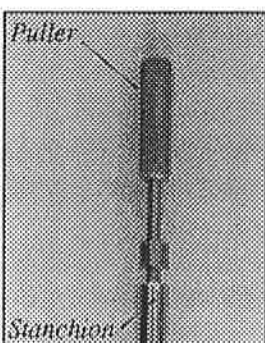

Fig. 9
12. Thread the puller onto the schraeder valve and pull the assembly out of the stanchion (Fig. 9).